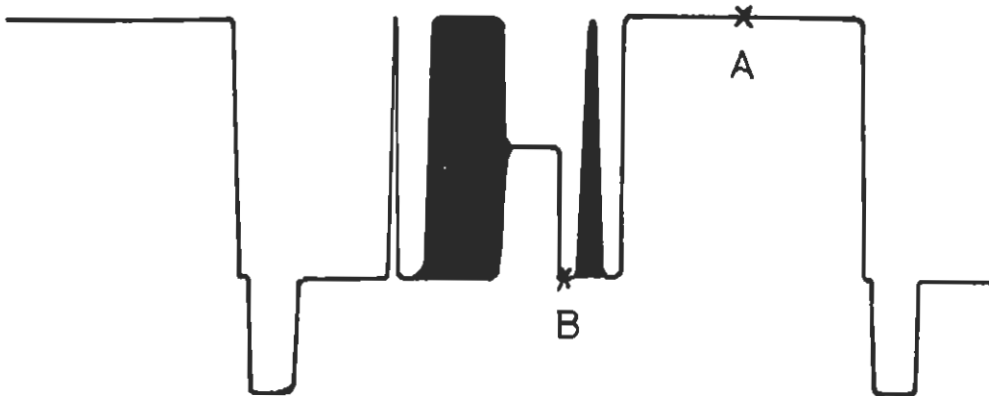

Figure 6: Bar Height Measurement Points
Black level - just before the 10T pulse (B), see figure 6.